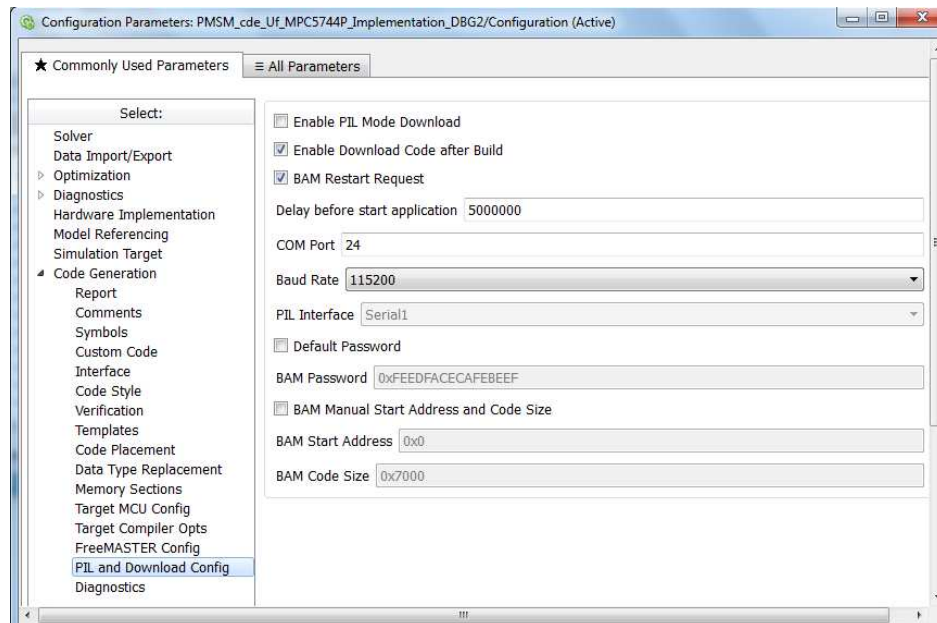

Figure 38 - Configuration of code downloading on the MCU target
- PIL and Download Config: configuration of the code downloading and Processor-In-The-Loop options. In Figure 38, the configuration required for Automotive electronics lab is shown. Select Enable Download after Build to launch the downloading of the executable file into the MCU target at the end of the code building. Select also BAM Restart Request. Set the actual COM port and the baud rate.